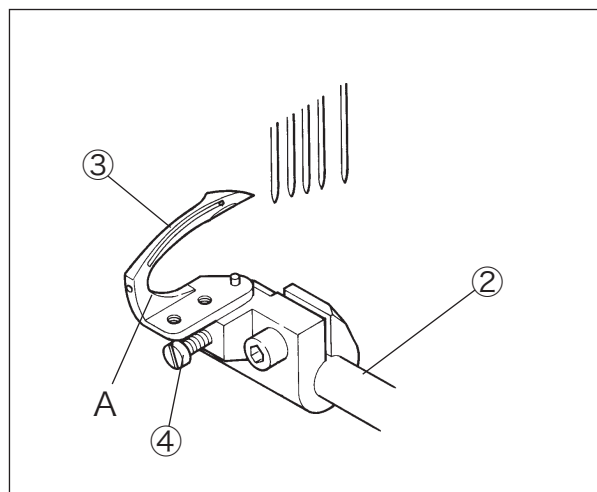

Fig. 1-11
Standard setting angle: Face A is perpendicular to the looper rocker shaft ② (Fig. 1-11)
- (1) Insert the looper angle gauge ① into the inner wall in which the feed bar of the sewing cylinder is positioned.
- (2) Insert a screwdriver into the semicircular cutout section B and press it against the right wall face, while also making it contact the looper ③.
- (3) Loosen and adjust the screw ④ so that the looper ③ is against the end face of the looper angle gauge ① with no clearance.